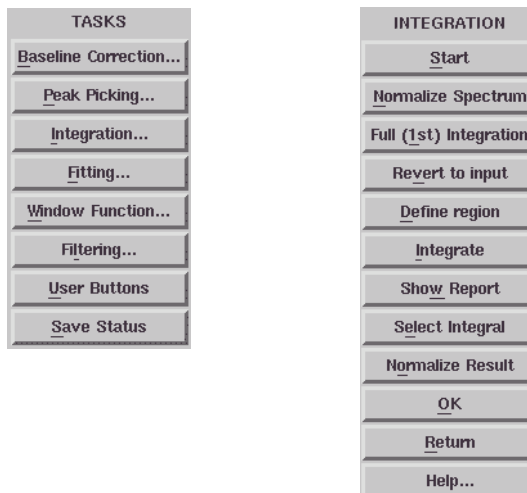

Figure 6-37 The Integration button and menu in the TASKS bar.
2. **Start the Integration task.** Click the Integration button in the TASKS menu. The Integration menu will replace the TASKS menu. (See Figure 6-37.)